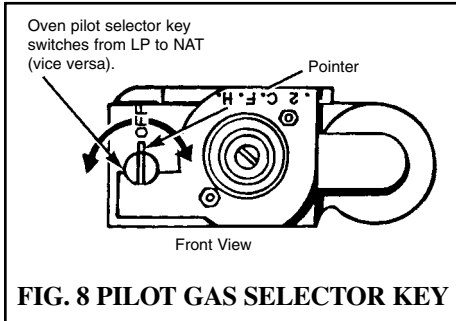

FIG. 8 PILOT GAS SELECTOR KEY
The oven pilot gas selector screw is located on this control. To change oven pilot gas setting: (A) Remove oven control knob by pulling straight out. The oven gas selector screw is found in the lower left hand corner indicating "LP" or "N". (B) These letters will appear upside down reading "N" and "dT". (C) Rotate the adjustment screw tab to the proper setting. See Figure 8.